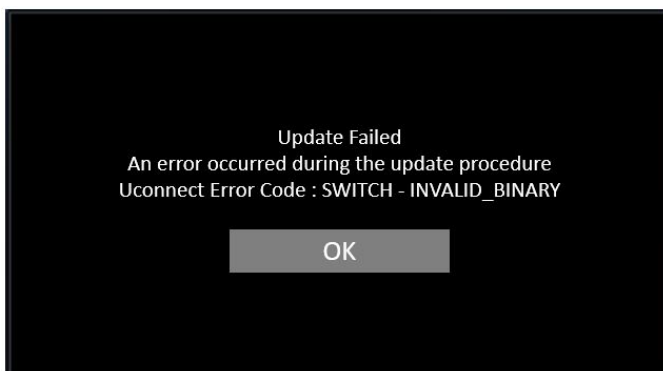

Fig. 7
21. If the radio displays an error pop up “ SWITCH-INVALID_BINARY“ after successful radio update, ignore this error message and press “**OK**” to continue Fig. 7.